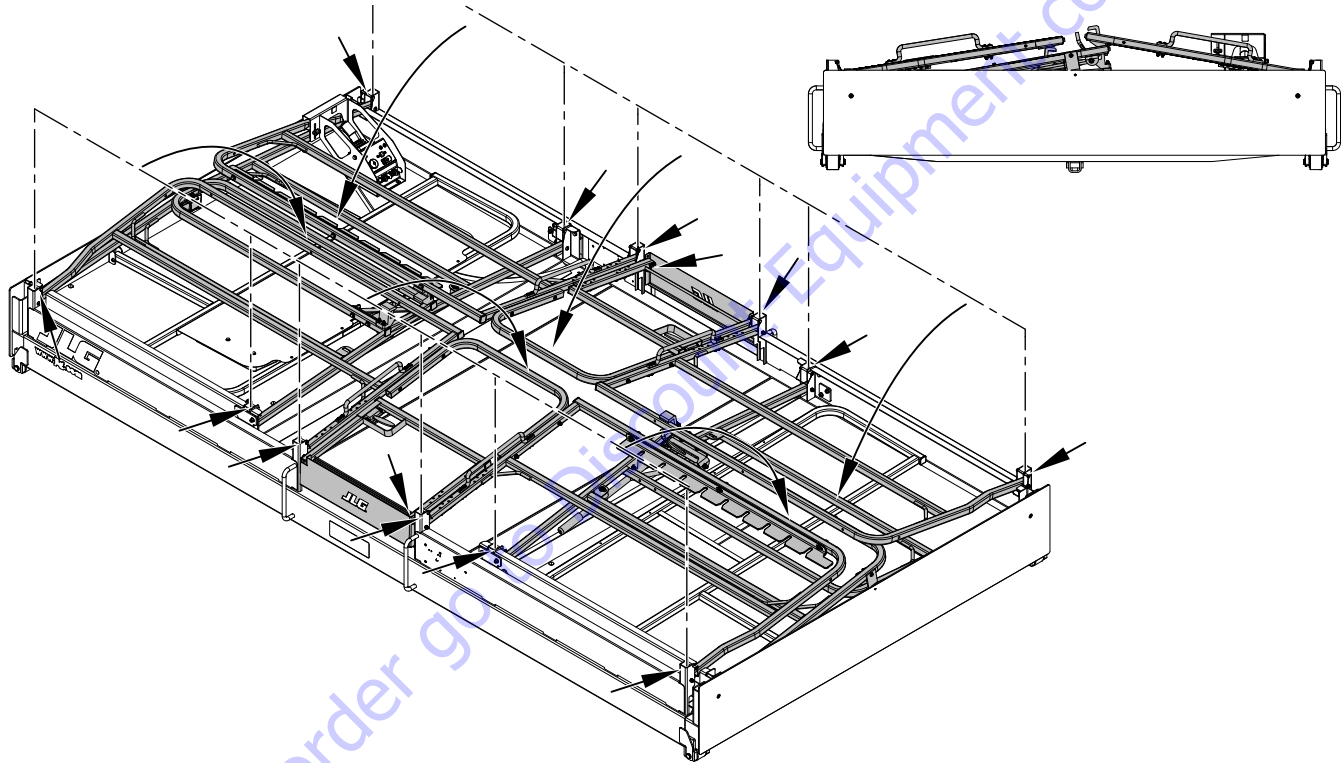

Figure 3-3. Platform Side Rails - Fold Down Sequence and Rail Pin Locations
3. Pull platform extension side rail pins (one per rail set, see short arrows in Figure 3-3.), then fold down extension side rails.
4. Pull main platform side rail pins (four per rail set, see short arrows in Figure 3-3.), then fold down main platform side rails.